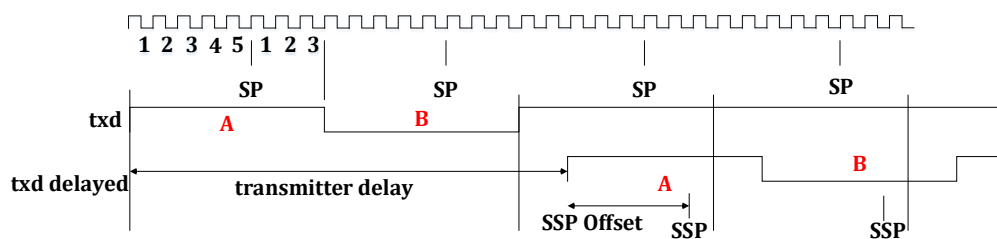

Figure 21-16 Transmitter Delay
Figure 21-16 gives an example of the effect of a big transmitter delay. In this figure a `txd` data stream is shown starting with bits A and B. One bit time consists of  $t_{Seg\_1} = 5$  TQ before the Sample Point (SP) and  $t_{Seg\_2} = 3$  TQ behind. In this example the transmitter delay is longer than 2bit times. Therefore, the original SP cannot be used to sample the correct bit value and the CAN FD specification defines an additional Secondary Sample Point (SSP). If TDC is enabled with bit `TDCEN=1` then CAN-CTRL automatically determines the transmitter delay. The position of the SSP is the transmitter delay plus the SSP Offset which is defined by the configuration bits `SSPOFF`. `SSPOFF` must be given as a number of TQ and it is suggested to set  $t_{Seg\_1}$  equal to `SSPOFF`. (Please remember that `F_SEG_1` defines  $t_{Seg\_1}$  during data bit rate. Therefore, in the example given in Figure 21-16 `SSPOFF=5` is chosen, because `F_SEG_1=3`.)